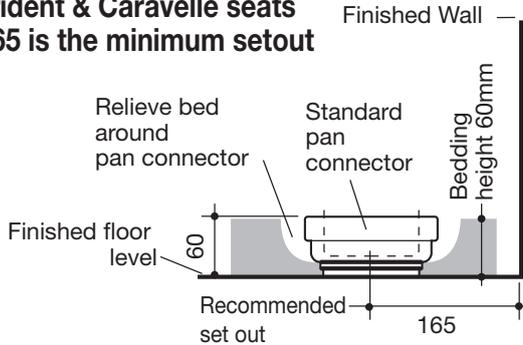
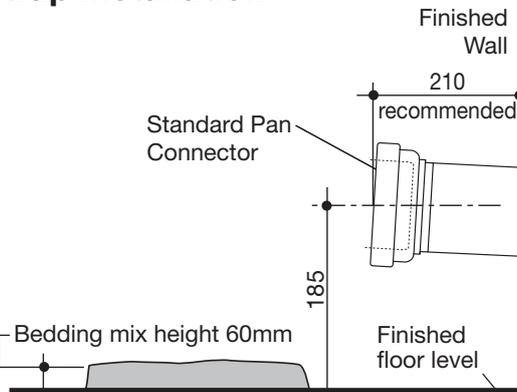

Fig. 1
Fig. 2
The soil pipe and pan collar should be accurately fixed into position as recommended for Caroma pans, as detailed in Figure 1 and Figure 2.
3. Prepare bedding sand cement mixture 3:1 to depth of 60mm as detailed in Figure 1 or Figure 2.